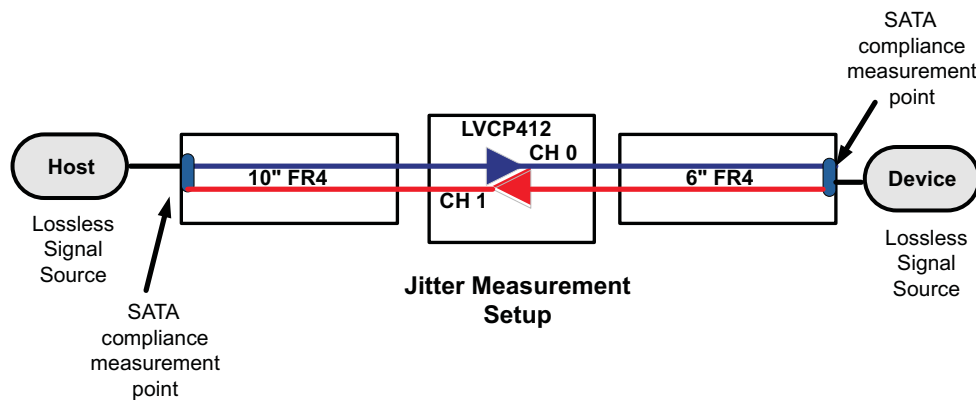

Figure 2. Jitter Measurement Test Condition
(1) $T_J = (14.1 \times RJ_{SD} + DJ)$ where RJ_{SD} is one standard deviation value of RJ Gaussian distribution. T_J measurement is at the SATA connector and includes jitter generated at the package connection on the printed circuit board, and at the board interconnect as shown in Figure 2.